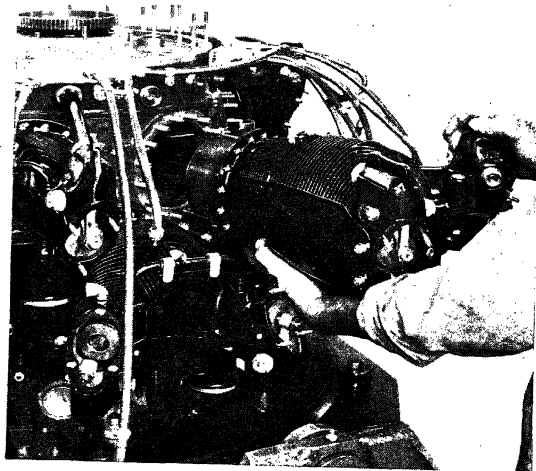

FIG. 5.—Removing a cylinder.
**Cylinders.**—It is customary to remove all the cylinders of the front bank before removing the cylinders of the rear bank. (See Fig. 5.) Regardless of the procedure followed, the master rod cylinder of each bank should be the last cylinder of that bank to be removed.
Remove the palnuts first. The cylinder hold-down nuts are removed with a special wrench. Allow the top nut to remain on each cylinder until the nuts of the cylinders of that bank have been removed. The cylinders are then removed at one time. To do so, remove the top retaining nut and turn the propeller shaft with the wrench, until the piston is at the top of its stroke. The cylinder is then removed from the piston (Fig. 5). On C-3 engines, there may be some tendency for the spherical washers under the hold-down nuts to catch in the threads of the studs. It will be found that a quick jerk on the cylinder will break the washers loose from the studs.